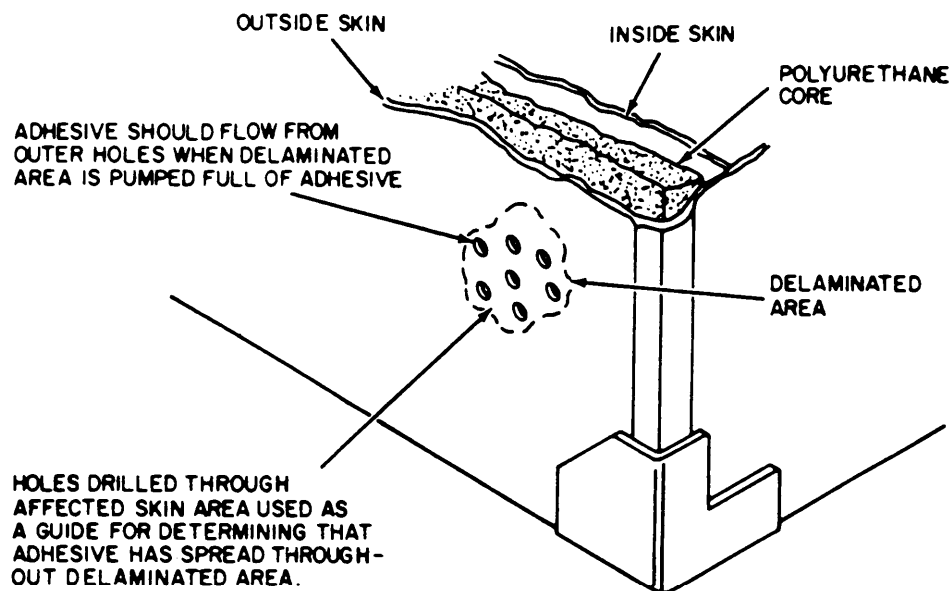

Figure 4-1. Skin Panel Delamination Repair.
b. *Repair.* (Figure 4-1)
(1) Mark off the limits of delaminated area.
(2) Using Figure 4-1 as a visual guide, drill a 3/16 inch diameter hole in approximate center of delaminated area of affected panel only. This hole will be used to pump epoxy adhesive into delaminated area.
- (3) Drill 3/16 inch diameter pressure release holes no closer than 1/2 inch from edge of delaminated surface. Number of holes should be determined by size of delamination area. (Release holes should be approximately 2 inches apart.)